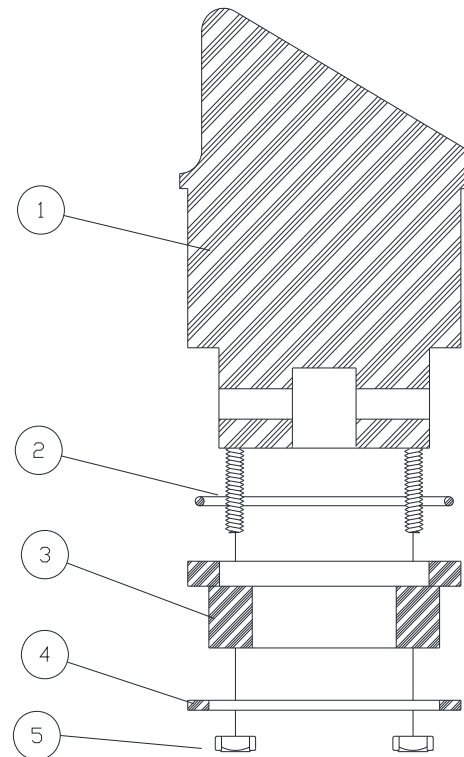

FIGURE 4
TO DISMANTLE PISTON IN FIGURE 4, REMOVE THE SIX NYLOCK HEX NUTS (5), SLIDE SLIP RING (2) DOWN AND OFF, THEN WITH SLIGHT PRESSURE, PUSH PISTON RING (3) OFF PISTON AND REMOVE RUBBER "O" RING (2). WHEN REASSEMBLING THE PISTON, A VERY **IMPORTANT** STEP IS TO MAKE SURE THE SIX NUTS (6) ARE NOT OVERLY TIGHTENED, MERELY SNUG. AS THE RING WEARS OVER A PERIOD OF TIME, CONTINUE TO SNUG UP THE SIX NUTS. THIS PROCEDURE WILL NOT ONLY PROVIDE LONG LIFE TO THE PISTON RING BUT WILL MAINTAIN FULL VACUUM. **FINAL ADJUSTMENT OF PISTON SHOULD BE MADE ONCE PISTON IS SECURE INSIDE THE CYLINDER!!**
THE PISTON AND SPRING LOAD ASSEMBLY HAVE A TOTAL OF (4) GREASE FITTINGS, (FIG. 2). THREE (3) OF THESE FITTINGS ARE FOUND ON THE LOWER CASTING OF THE SPRING LOAD. APPLY A SMALL AMOUNT OF GREASE TO THESE FITTINGS ONCE A WEEK. THE SAME PROCEDURE SHOULD BE FOLLOWED FOR THE GREASE FITTING UNDER THE PISTON, (FIG. 4). THIS FITTING IS LOCATED ON THE TOP OF THE OUTSIDE CONNECTING ROD, (PART NO. 322PY).